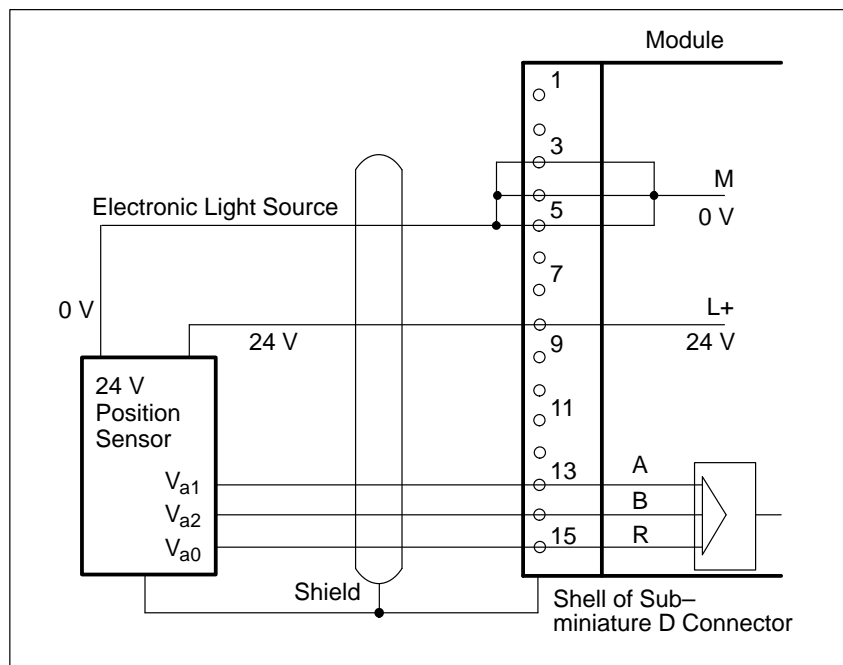

Figure 9-12 Connecting a 24 V DC Position Sensor
- Figure 9-12 shows how to connect a 24 V DC position sensor.